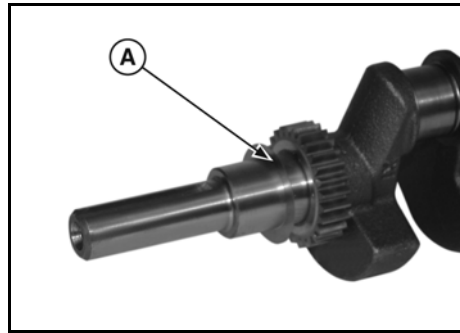

Figure 15
- Models 200000, 210000 Horizontal Engines - install shim on PTO-end of crankshaft (A, Figure 15).